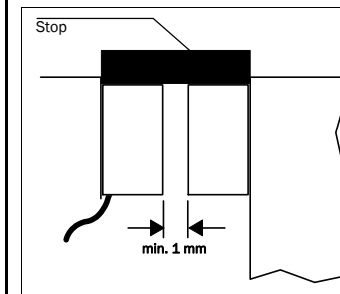

Fig. 5: Mounting example for safety switch and actuator
- Fit safety switch and actuating element such that they do not touch each other; minimum distance between the front faces with the guard closed 1 mm (Fig. 5).
- Fit an additional stop for moving parts of the guard (Fig. 5).